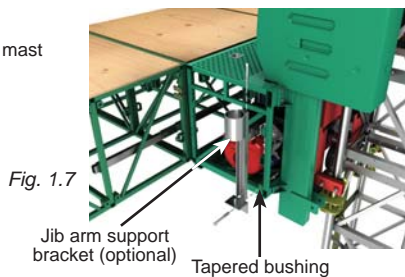

Fig. 1.7
- 13- To install the optional jib arm support bracket, align the top part of the support bracket with the tapered bushing on the side of the main frame (fig. 1.7). Secure the top and bottom of the bracket with the bolts provided.